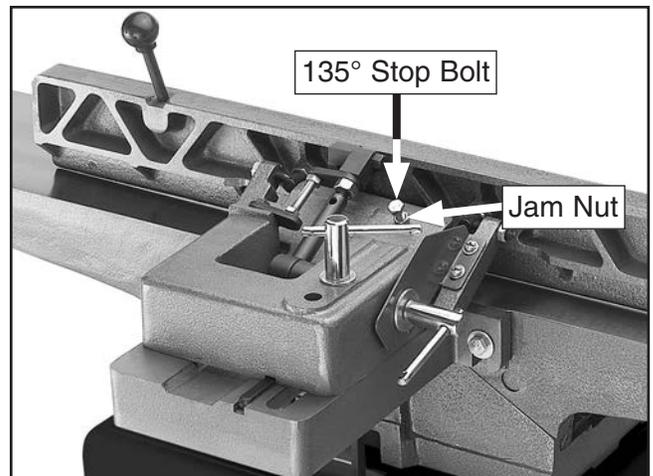

Figure 56. Location of 135° stop bolt and jam nut.
3. Loosen jam nut on 135° stop bolt (see **Figure 56**).